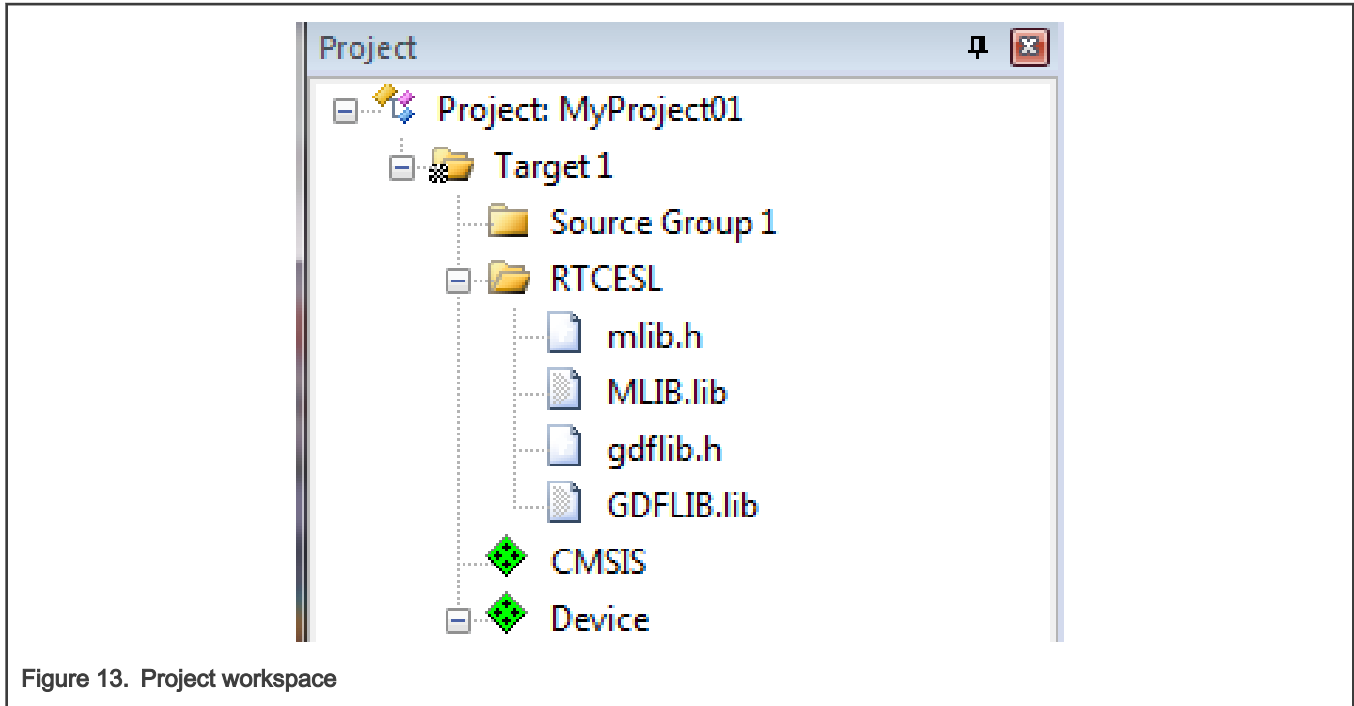

Figure 13. Project workspace
- Now, all necessary files are in the project tree; see Figure 13. Click Close.